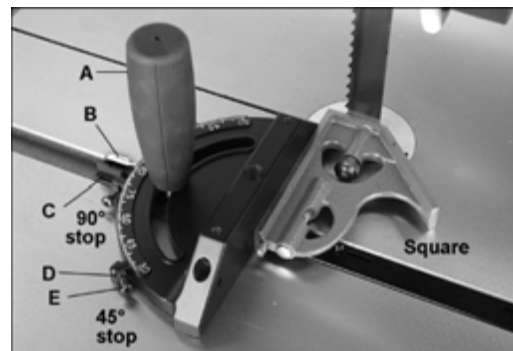

Figure 35: miter gauge adjustment
The 45° stops can be checked in similar fashion, using an angle gauge similar to that shown in Figure 35.
1. Place a square against miter gauge face, and against flat of blade, as shown in Figure 35. (Place square against flat of blade, not against the teeth which are set wider than the blade body). A wide blade is preferred for this procedure.
Adjusting Miter Gauge Angle for Operations (models PM1800B/B-3, PM2013B/B-3, and PM2415B/B-3, refer to Figure 35):